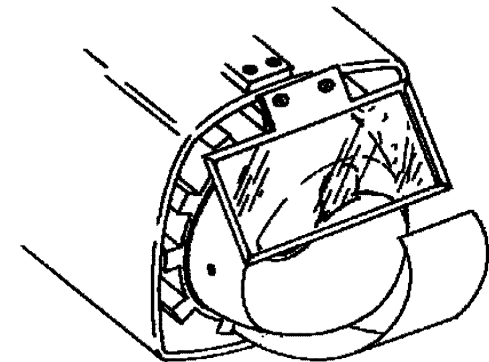

Figure 4. RG-11 Reflector
d. RG-11. Used for heating solder termination sleeves and shrinking small-diameter tubing. Has a 1/2 inch wide aperture and has to be ordered separately (Figure 4).